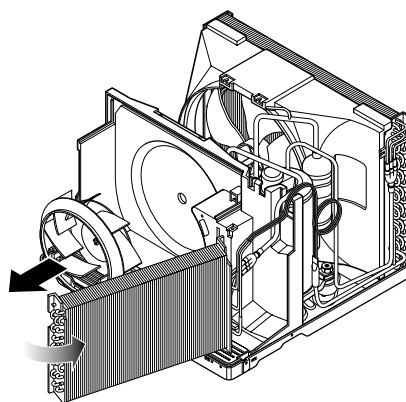

Figure 18
10. Pull out the hook of orifice by pushing the tabs and remove it. (See Figure 18)